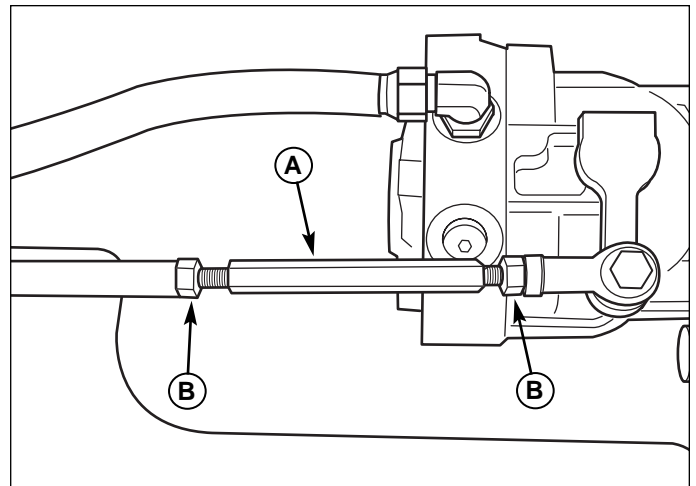

Figure 37. Neutral Adjustment
2. Loosen the jam nuts (B, Figure 37) and turn the adjustment linkage (A, Figure 37) to adjust. If the machine creeps forward, turn the linkage CLOCKWISE (while standing at the rear of the machine, facing forward), if the machine creeps backward, turn the linkage COUNTER-CLOCKWISE.
3. Lock the jam nuts (B) when neutral is achieved.